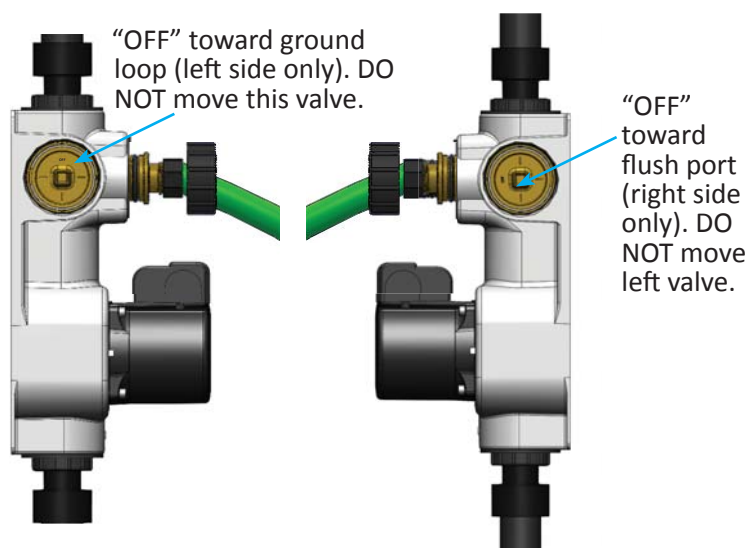

Figure 31: Flow-Link™ Double O-ring flow center valve positions for pressurization
- Flow-Link™ Series (double O-ring fittings): Rotate the right valve counter-clockwise to turn off the flush port connected to the right hose (Figure 31). **NOTE: It is very important to turn the valve counter-clockwise.** Otherwise, air could be reintroduced into the loop through the flush port.